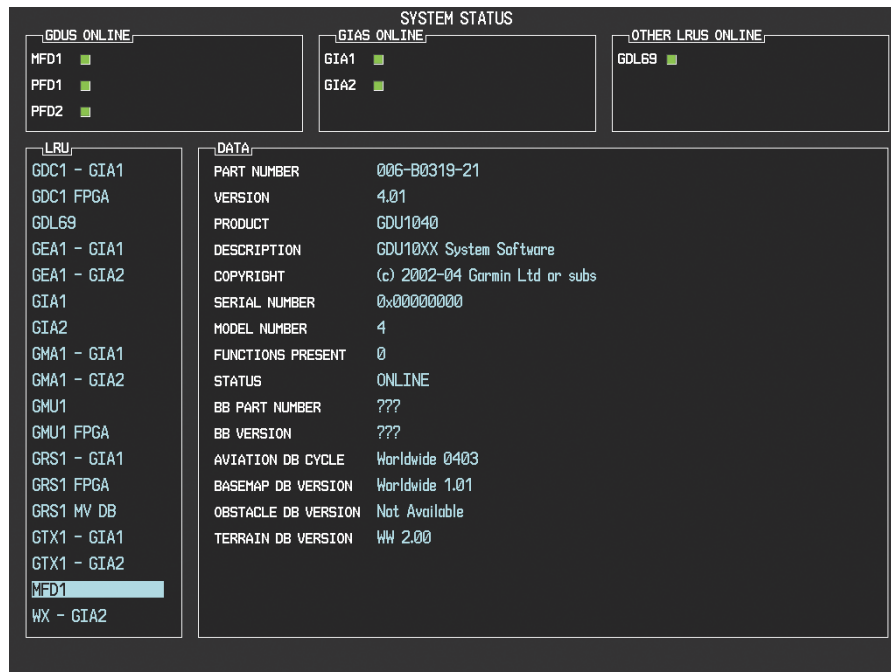

Figure 10-1. System Status Page
1. Select the System Status Page (Figure 10-1).